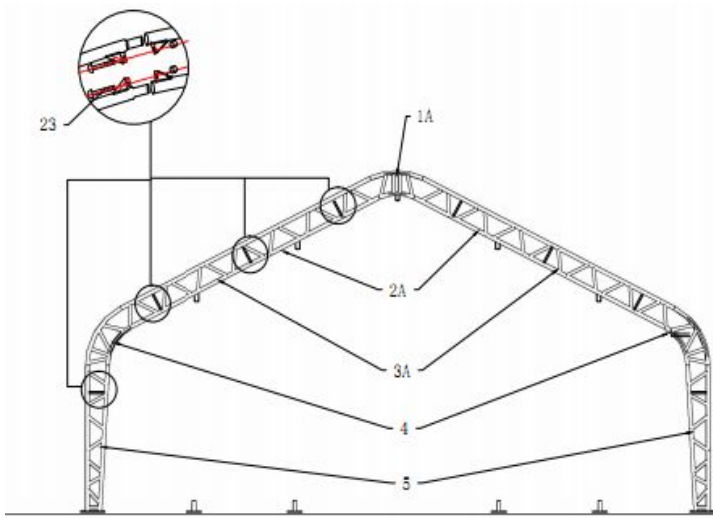
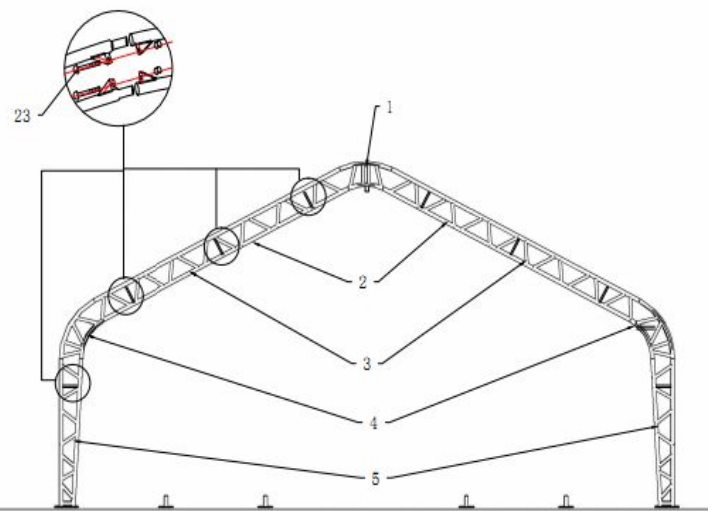

Figure 4
Figure 5
1. Figure 4 shows to connect the Top roof tube (No.1A), Roof curving tube (No.2A), Roof curving tube at both doors (No.3A), Sidewall tube (No.4) and Standing leg (No.5) with Bolt M12x30mm (No.23), then put the arch into tube of the Base flange by hoist, and assemble every group arch by turns (see Figure 5).